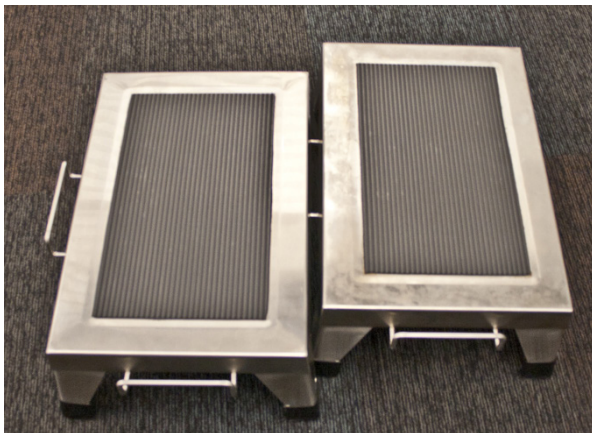

Fig. 3: Long Sides connected
Shown are possible configurations of connected Single Step Stools (Figs. 3, 4, 5).
**WARNING:** Note that in Figure 3, when connecting along the long axis of both stools, the legs must be offset slightly. Hooking the stools together with their legs adjacent will result in a wobbly and unsafe working platform.